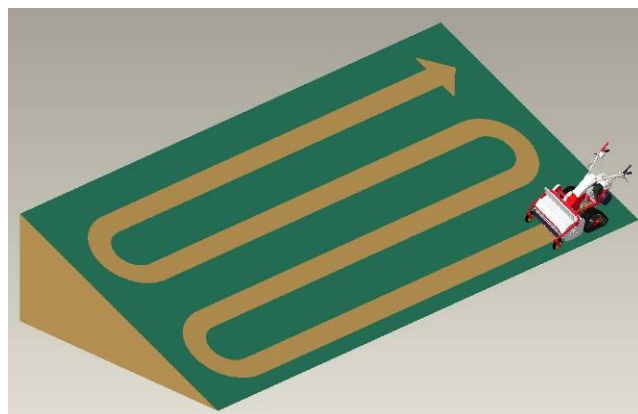

Figure 7
**In case of driving across the slope, it is safe to turn from low level to high level(Figure 7). If machine is turning from high level to low level, it is difficult to turn properly and it is very dangerous.**